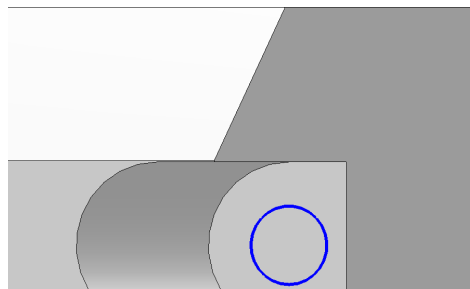

Fig. 51
Step 2. Click **Circle** (S) on the Sketch toolbar.
Step 3. Sketch **circle at centerpoint of cut**, **Fig. 51**. Wake up centerpoint.